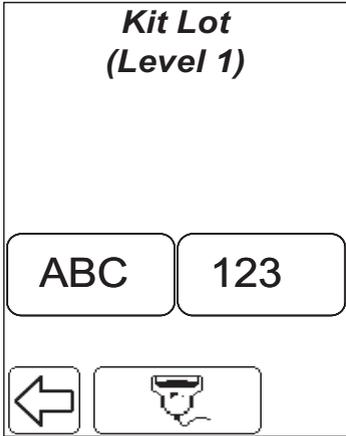

FIGURE 8-18
Press No to return to the current image or press Yes to continue to image *FIGURE 8-18*.
If testing for the selected level (6) is not complete, *FIGURE 8-18* is displayed.